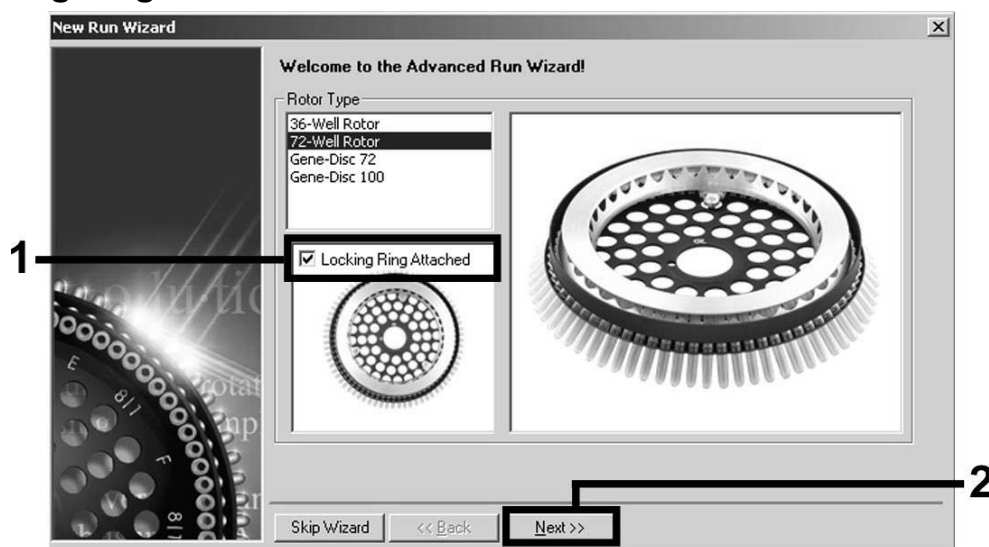

Figure 1. The “New Run Wizard” dialog box.
Setting the general assay parameters	Figures 1, 2, 3
6. **First, open the “New Run Wizard” dialog box (Figure 1). Check the “Locking Ring Attached” box and click “Next”.**